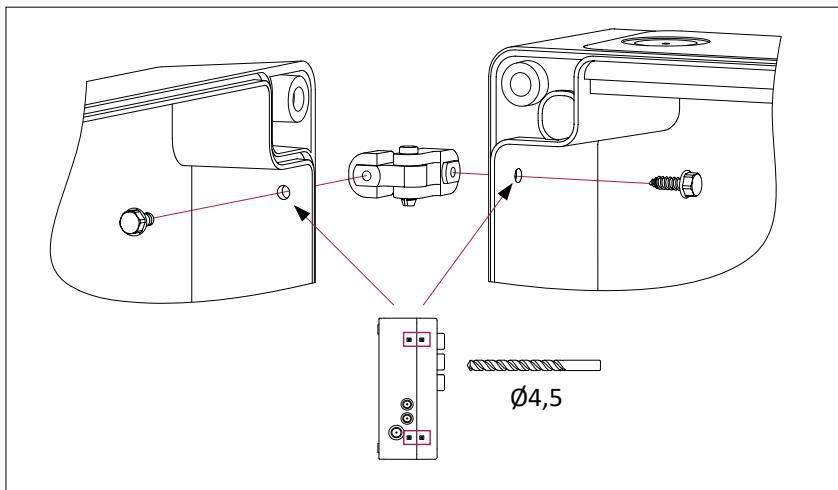

Figure 6
- Select the case cover opening direction and install hinges using the screws and wrench (**Figure 6**). Previously, carefully drill Ø4.5 mm holes in the designated places of the case cover and base. The figure shows the installation of hinges on the left (opening the cover to the left).